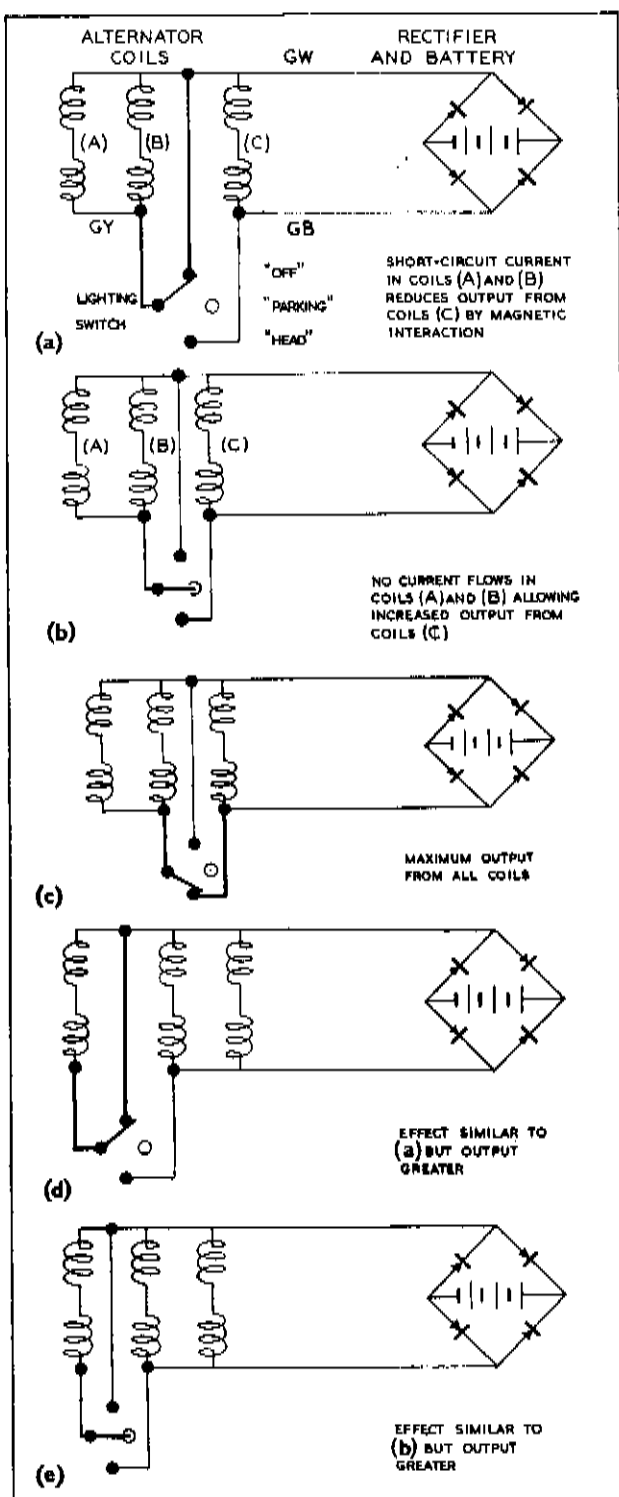
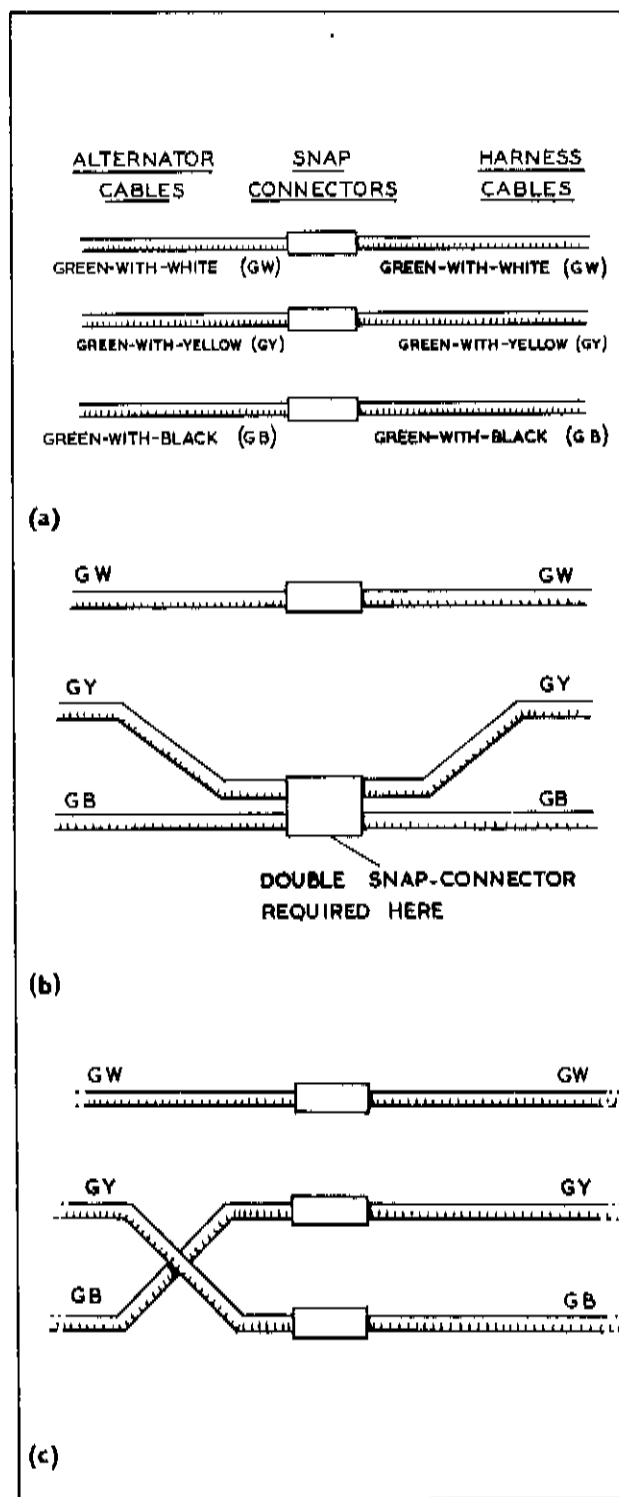

Fig. 5
Fig. 6
- (i) Alternator windings comprise three pairs of series-connected coils. In a standard installation, one pair is permanently connected across the rectifier to provide some degree of battery charging current whenever the engine is running. Connections to the remaining coils vary according to the positions of the lighting and ignition switch controls, as shown schematically in Fig. 5. Provided the ignition key is at 'Ign.', the basic circuits of a standard alternator installation providing three alternative outputs are as shown in Fig. 5 (a) (b) and (c) for lighting switch positions 'Off', 'Parking' and 'Head', respectively. In a standard installation providing two alternative outputs, as fitted to small coil ignition machines and others with low top gear ratios, the stator connections in both 'Off' and 'Parking' are as shown in Fig. 5 (b).
Note: This latter condition, shown in Fig. 5 (c), is also obtained on operating the Maximum Charge
- (i) When necessary, two further degrees of output can be obtained if, instead of only one pair of coils being permanently connected across the rectifier, two pairs are so connected—the remaining pair being either short-circuited or open-circuited as shown in Fig. 5 (d) and (e).
- (i) The circuits shown in Fig. 5 (a) and (b) obtain when the alternator cables are connected to the harness cables colour-to-colour as shown in Fig. 6 (a). The circuit shown in Fig. 5 (c) obtains (temporarily by switching, or permanently by snap-connector) when the green-with-black and the green-with-yellow cables are connected as shown in Fig. 6 (b). The circuits shown in Fig. 5 (d) and (e) obtain when the green-with-black (formerly dark green) and green-with-yellow (formerly mid-green) cables are transposed as shown in Fig. 6 (c).
- (ii) The method of obtaining the short-circuit conditions giving a reduced charge rate in the 'Off' position, shown in Fig. 5 (a) and (d), depends upon the design of lighting switch fitted to the machine, as follows :
Note: Avoidance of overcharging: since, with the lighting switch in the 'Off' position, the output into the battery from a two-rate connected alternator is greater than that from the three-rate, the effect of removing the terminal link of model PRS8 switch, or the appropriate cable from models U39, 41SA, 63SA and 88SA should (when applicable) first be ascertained before making the output boosting modifications shown in Fig. 6 (b) or (c).